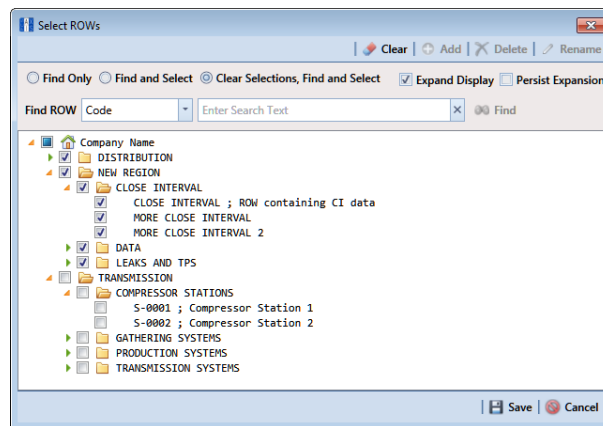

Figure 7-63. Select ROWs
- 1 Select one or more pipeline segments in the *Select ROWs* window (Figure 7-63). Select pipeline segment(s) with facilities you want to view in a form. Click **Save** to close the window.